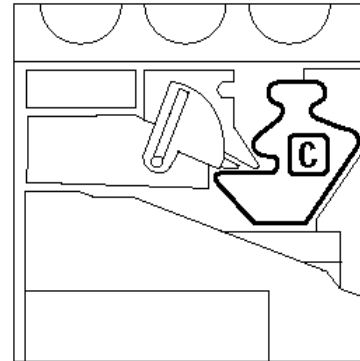

Figure 20: Locating the old Developer Waste Container
- 3 Locate the Developer Waste container (area C in Figure 20).